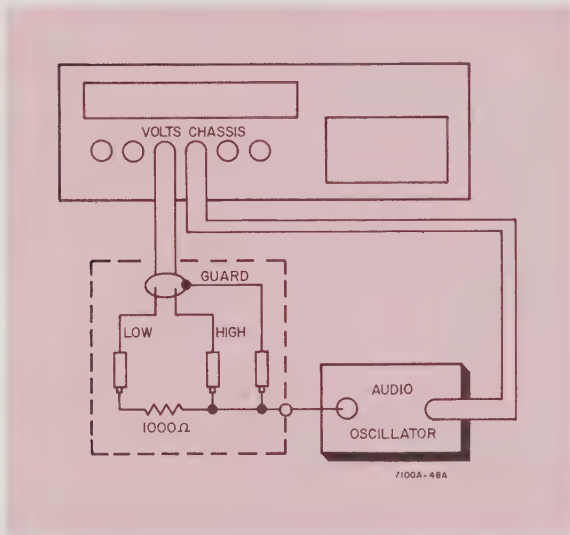

Figure 5-2. Test Set-Up AC Common Mode Rejection
- a. Connect test equipment as shown in figure 5-2. Set S2 on Model 7100A for short integration time.